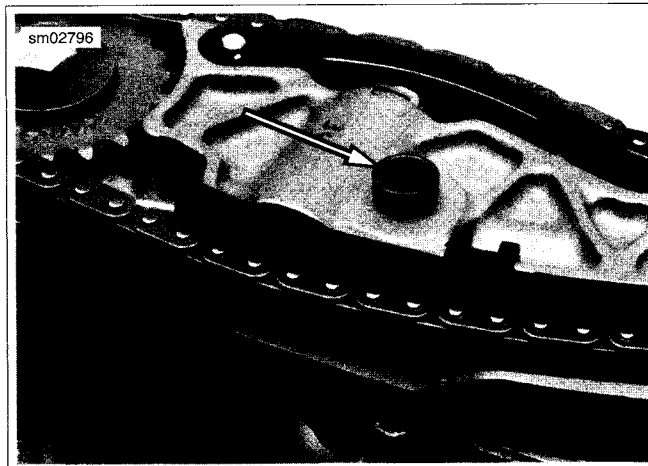

Figure 3-58. Rubber Interconnect
7. See Figure 3-58. Remove and discard rubber interconnect from chain guide bracket assembly.